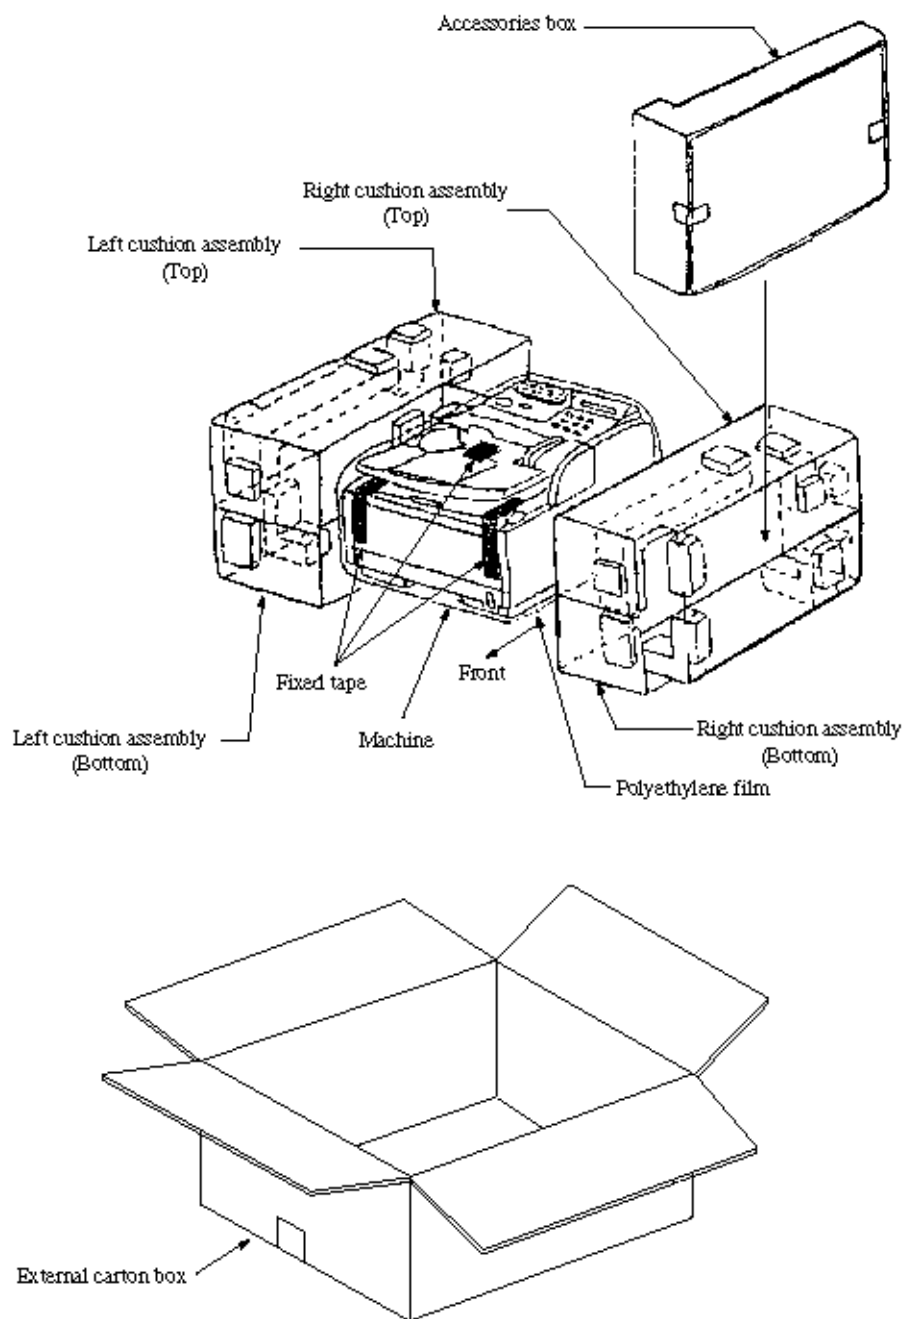

Figure 2.3.1 Unpacking Procedure (2)
.Figure 2.3.1 Unpacking Procedure (1)
2.3.02 Take out the accessory box from the carton box. (See Figure 2.3.1 below)